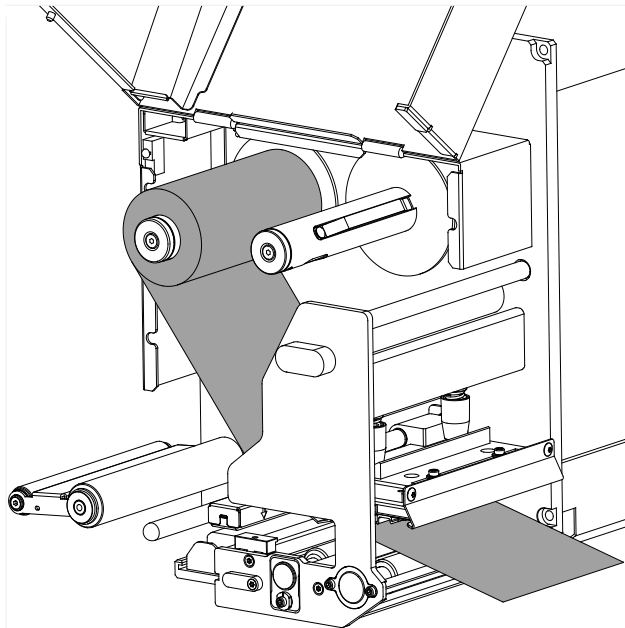

Figure 2-16 Thread Ribbon through Printhead Assembly
5. Follow the ribbon path (please refer to 2.1.4 Consumables Loading Path), thread the ribbon under the Ribbon Guide Rod and pass the Printhead Assembly, make sure that the ribbon's ink side is facing the media. See Figure 2-16.